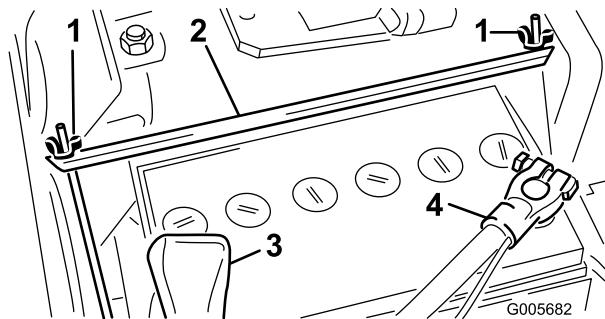
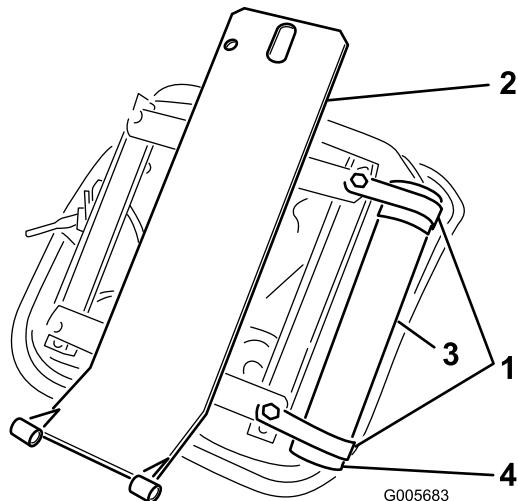

Figure 6
Figure 7
- Remove two wing nuts and hold down strap that secures battery (Figure 6). Lift battery out of chassis. Keep wing nuts and hold down strap in safe place for later use.
in kit (Fig. 6). Install manual tube into R-clamps and tighten capscrews (Figure 7).